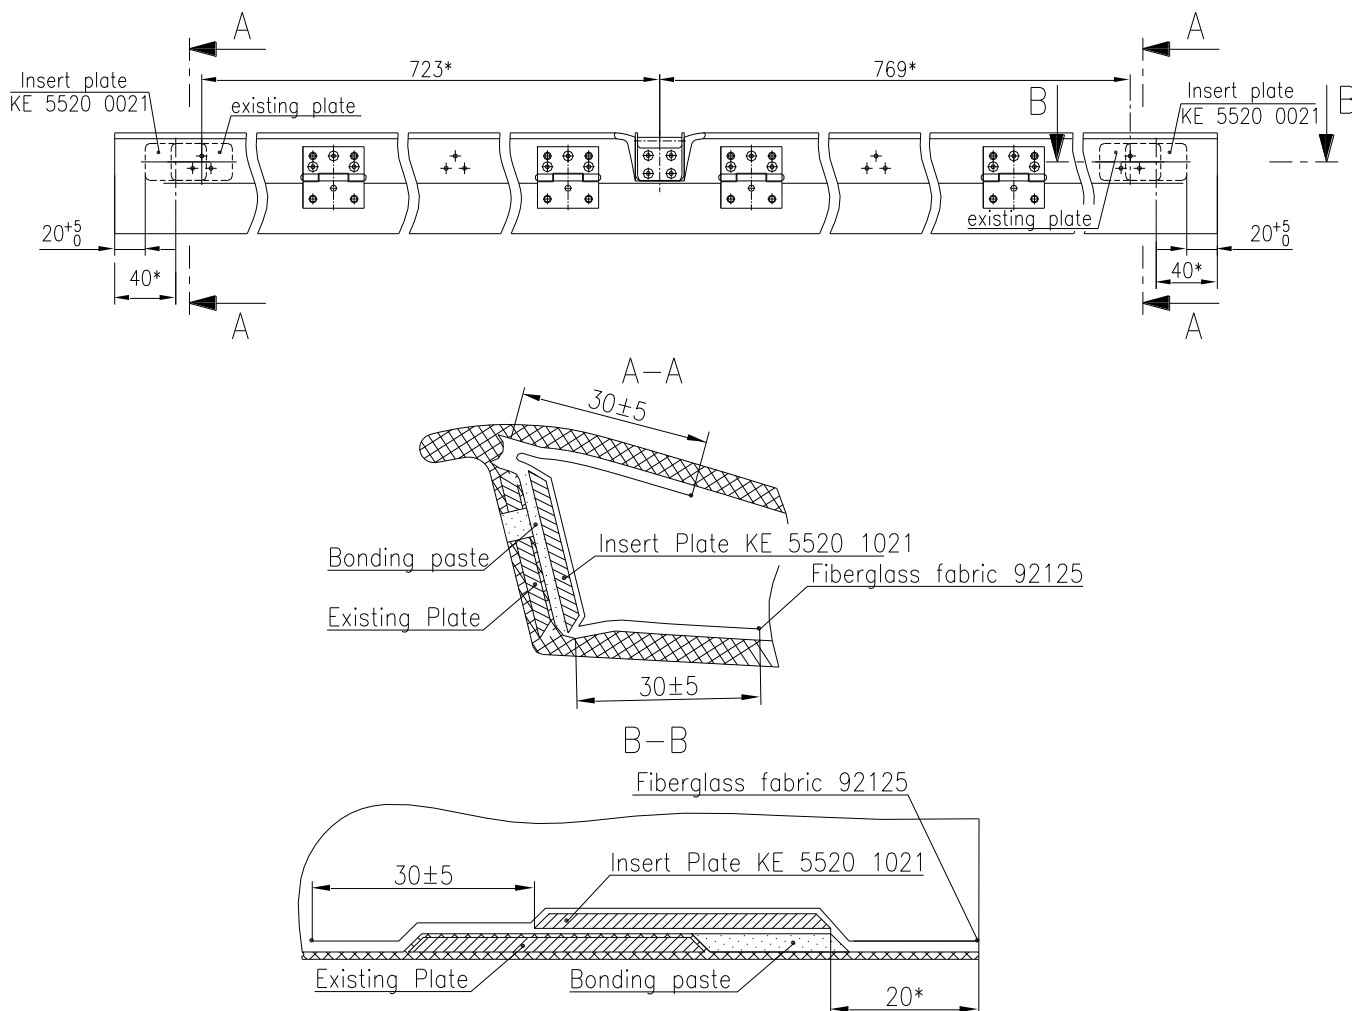

Fig. 3-13
Mark the places of the new Insert Plates KE 5520 1021 i.a.w. Fig. 3-13.
Prepare the inside surface of the shortened Trim Tab in places where the new Insert Plates KE 5520 1021 will be glued-in and the fiberglass fabric are laid up (Refer to 3.2.1). Sizes of the preparation area are 30 mm over the each new Insert Plate KE 5520 1021 in all directions (Fig. 3-13).
- Note:** Install the Insert Plates KE 5520 1021 exactly as shown on Fig. 3-13, section B-B; pay attention to the facets position. Also make sure the new plates are installed absolutely parallel to the existing plates. Check the distance between the Insert Plates edges and Trim Tab ends is 20 mm as per Fig. 3-13.